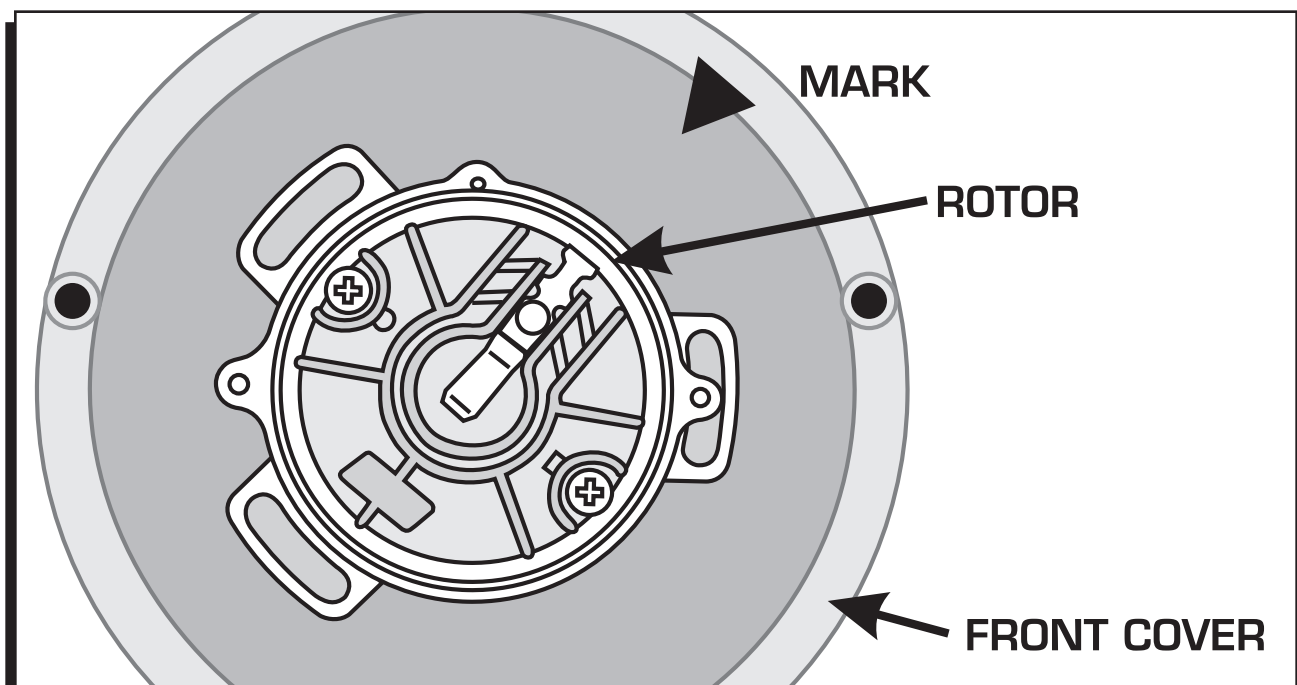

Figure 8 Marking the Rotor Location.
3. Hold the cap on the distributor. Whatever cap terminal the rotor tip points to is the number one terminal (Figure 8). Mark this terminal.